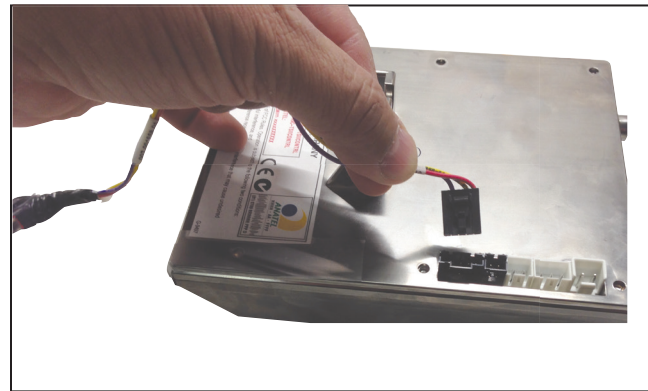

Figure 2. Insert the connector from the power module.
- (a) Insert the connector from the power module onto the pins in the TripSaver II Controller Module, as shown in Figure 2.